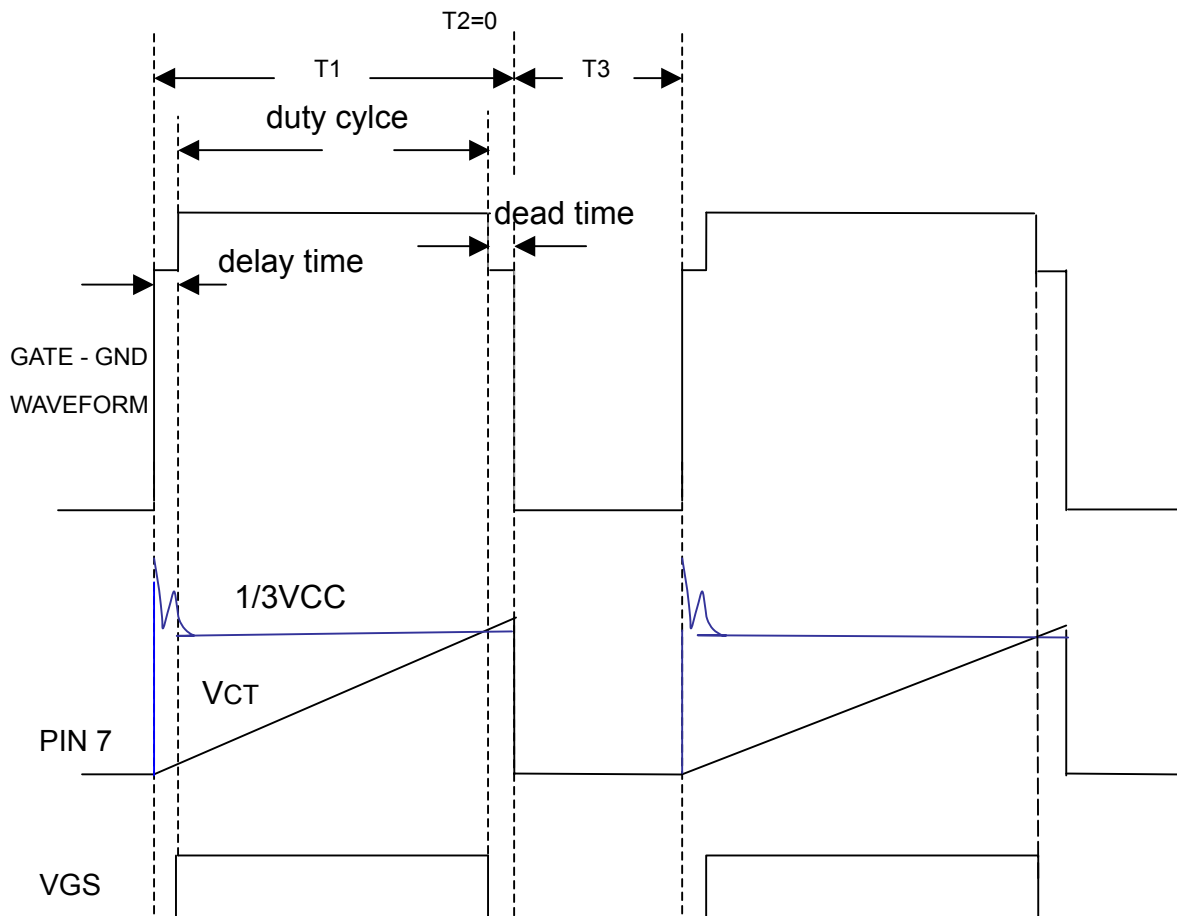

Fig 3 Control waveform for the continue mode
In the continue mode operating , the output control dead time is used by a comparator , RT/CT(pin 7) connected a resistor (RT) to VCC ,and connect a capacitor (CT) to GND , the pin 7 is charging current via RT to CT and forming a saw-tooth waveform voltage, the voltage is reaching $1/3V_{CC}$, then the comparator will become low level ,therefore the driver output changed to low and turn off the MOSFET . See the Fig 3 , the dead time appears on the end of T1 period .